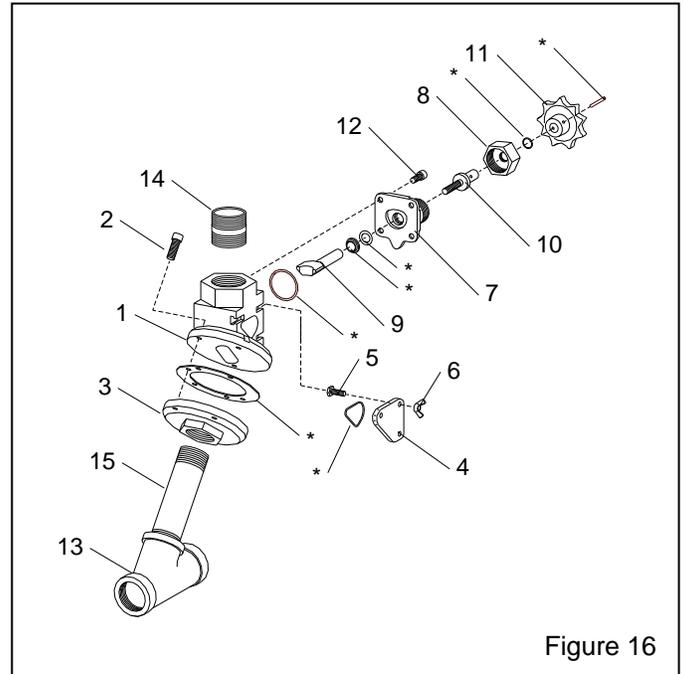

Figure 16
8.4 Quantum Manual Abrasive Metering Valve, Figure 16